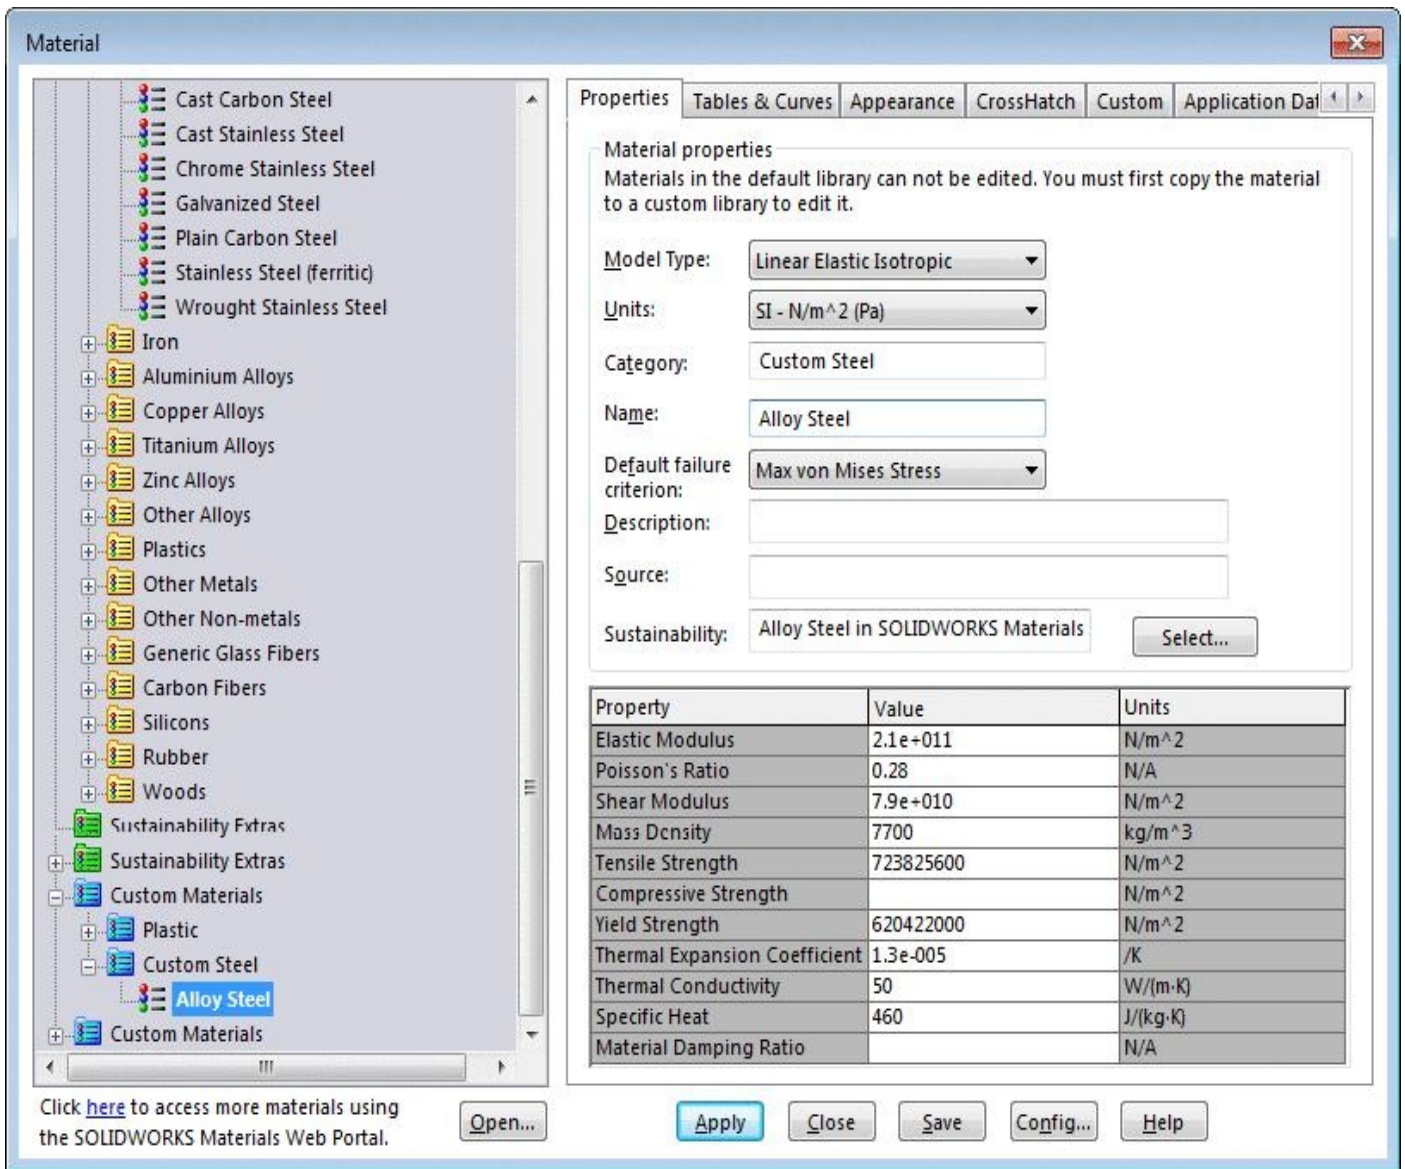

Figure-8. Details of custom material
- Click on the added material, the options related to the material will be displayed on the right in dialog box; refer to Figure-8.